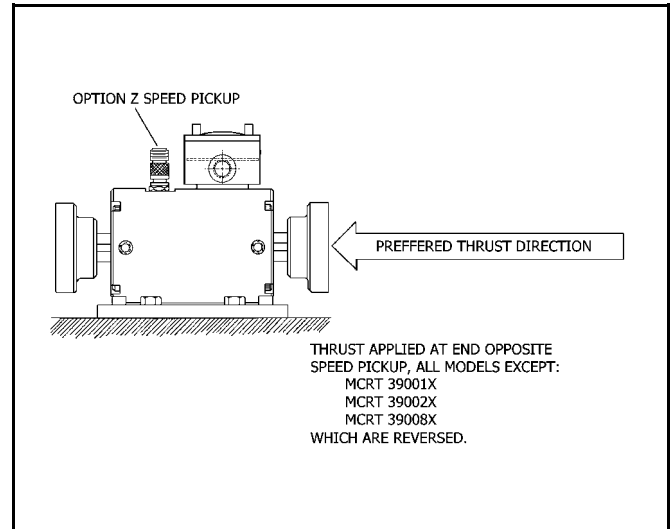

Figure 4. Preferred Thrust Path
Orienting a **foot mounted** torque transmitter per Figure 4 will provide increased uni-directional thrust capacity. Because dynamic thrust loading is usually bi-directional, it's safest to limit bearing axial (thrust) loads per ¶C.3. **Orientation does not affect the thrust capacity of torque transmitters installed as floating shafts.**
When axial bearing loads are *uni-directional*, the orientation illustrated in Figure 4 increases the uni-directional thrust rating by a factor of four (4). Remember, the